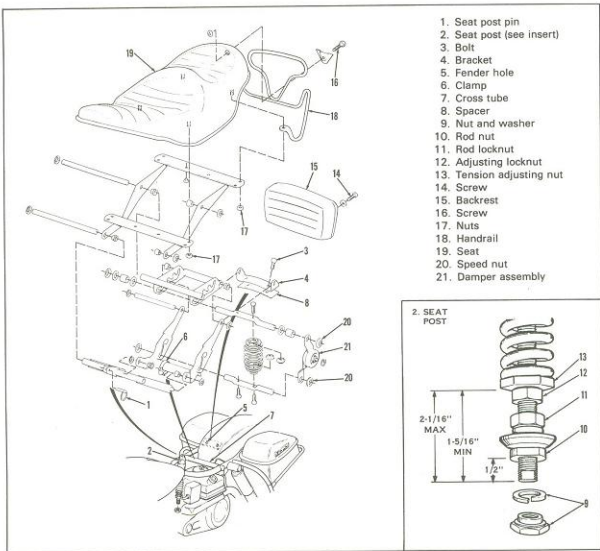

Figure 2-73. Comfort Flex Seat - Exploded View
REMOVING AND INSTALLING SEAT ASSEMBLY (Figure 2-73)
Referring to Figure 2-73, pull out pin (1) from seat post (2). Lift seat up into raised position. Remove two bolts (3), nuts and washers which attach bracket (4) to fender through holes (5). Remove two clamps (6) which attach seat to frame cross tube (7). The seat will now be freed and can be lifted off the motorcycle.
To reinstall seat assembly, reverse the procedure given above for removal while observing for correct clearances. The seat post height should be $3 \pm 1/16$ in. from seat post frame to centerline of post pin hole. With upper shaft (5, Figure 2-72) in fifth or rear most slot, the seat should compress fully to its stops and the gas tank clearance must be 1-1/2 in. minimum and, there should be adequate clearance between seat and fender, luggage carrier with Tour-Pak, and saddlebags. If seat post height requires adjustment, proceed as follows. Referring to Figure 2-73, remove nut and washer (9) from bottom of seat post and remove seat post from motorcycle. Adjust rod nut (10) to obtain 1/2 in. dimension shown in figure. This dimension should give the seat the correct dimension of $3 \pm 1/16$ in. Note that adjusting locknut (12) can be removed completely from the assembly and not used at all if necessary to achieve the $3 \pm 1/16$ in. dimension.
After removal from motorcycle, the seat assembly is partially disassembled by removing items 14 through 20 in the order shown in Figure 2-73. Reassemble in reverse order.